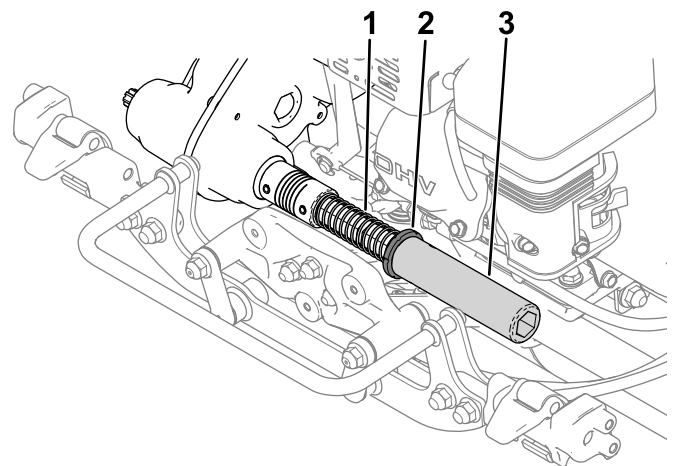

Figure 3
- Install the spring, collar, and hex tube to the transmission coupler shaft (Figure 3).